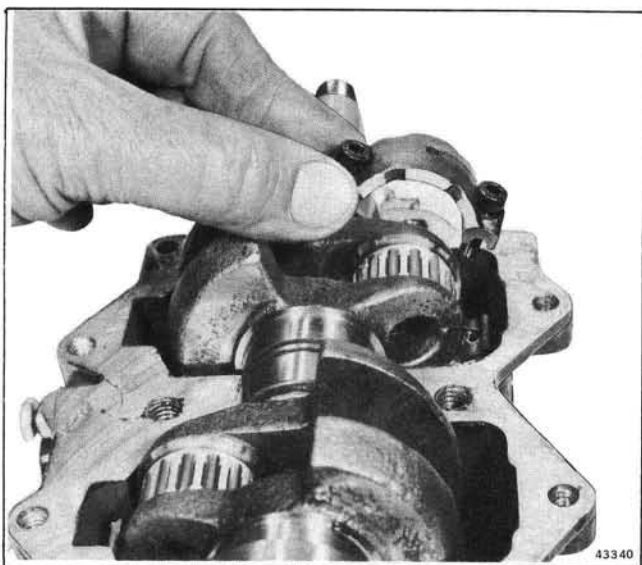

Figure 5-38. Installing Connecting Rod Caps
e. Install connecting rod caps, but do not torque the screws at this time. See Figure 5-38.